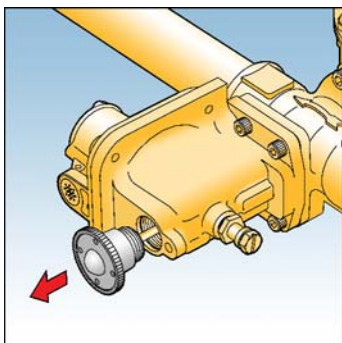

Fig. 4
11. If safety device fitted, re-cock by unscrewing reset spindle end cap and pulling firmly. Hold in this position until the outlet pipework is fully pressurised, then release reset spindle end cap gently. Re-screw reset spindle end cap into body. See Fig. 4.